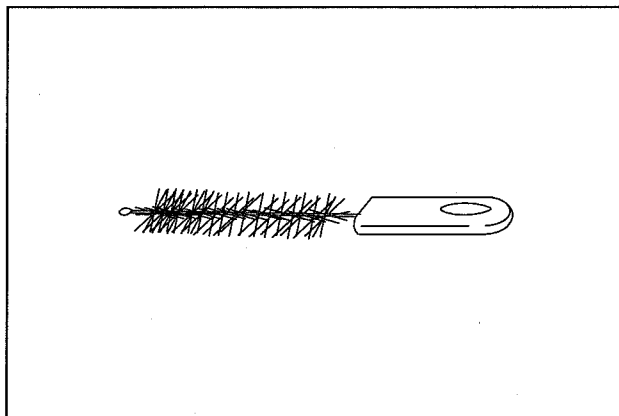

Figure 3.7
The channel-opening cleaning brush is used to brush the external surface of the distal end of the endoscope, the suction cylinder and the instrument channel port (see Figure 3.7).
1. Check for loose or missing bristles (see Figure 3.7).